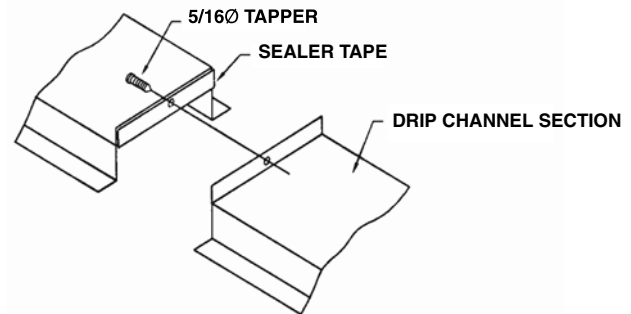

Figure 9 - Drip Channel Assembly
10. Fasten the drip channel sections together, end to end, by driving a self-tapping 5/16" screw through the section end with the larger hole into the mating end with the smaller hole. Stainless steel units will use 5/16" stainless steel nuts, bolts, and washers. (See Figure 9.)